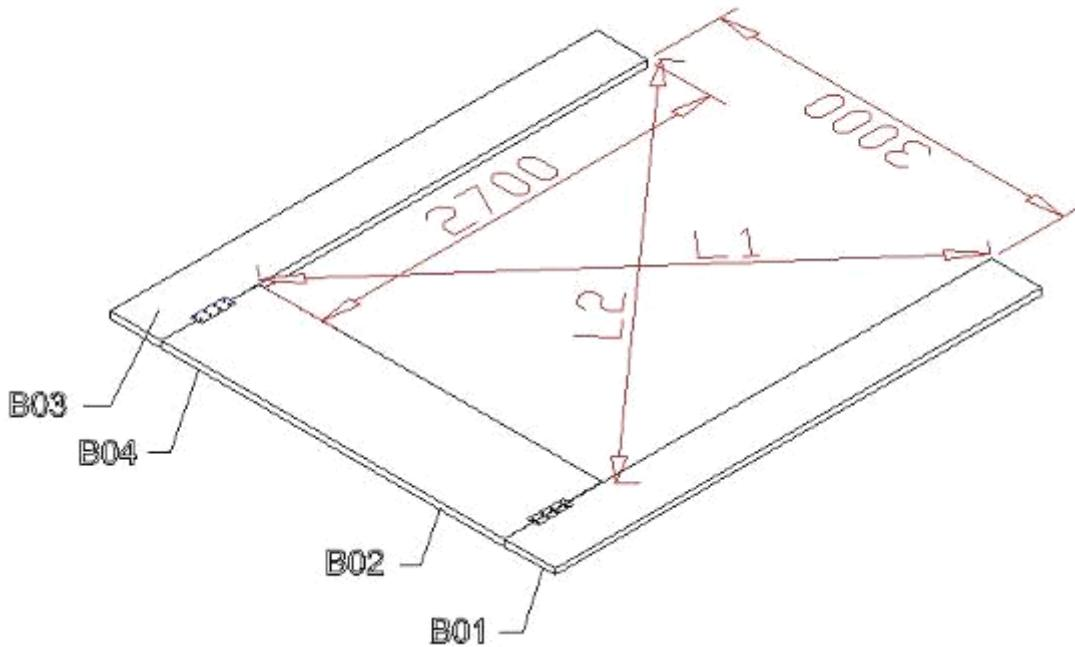

Fig. 3.6
- Installate the front door frame (shown in Fig.3.6)
- 2) Measure the diagonal of the length and width, when they are suitable for the demand of the door frame size (shown in Fig.3.6), $L1=L2$, fix the door frame with appoint connect board (B04). Pay attention to that check the sizes of the door frame after fixing.